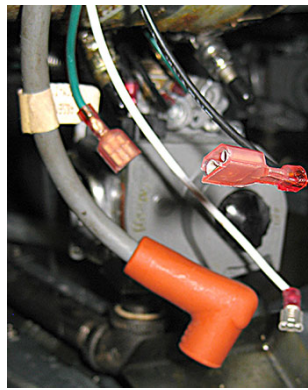

Figure 7
11. Disconnect the high voltage wire, the white flame sense wire, the green ground wire and the black burner ground wire from the existing module (see Figure 7).